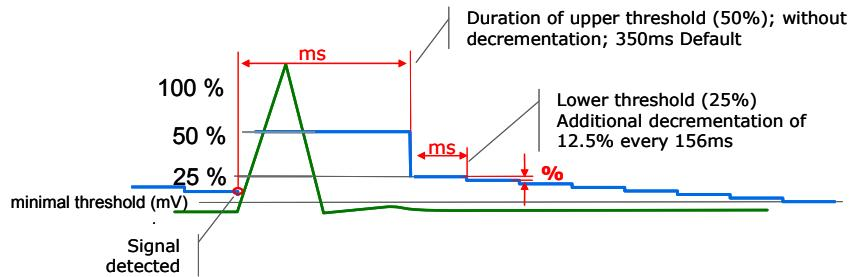

Figure 39: Automatic Sensitivity Control (ASC) in the atrium
The Lumax 740 VR-T DX, DR-T and HF-T ICDs have two sensitivity settings in the atrium: 1) Standard and 2) OFF. The Standard atrial setting is recommended for all patients and works similarly to the ventricular Standard setting. In the Standard setting, each P-wave is tracked and used to reset the upper and lower thresholds. Figure 39 shows an example of atrial ASC. The upper threshold (UT) is set to 50% of the peak P-wave amplitude. The Upper threshold after sense/pace is fixed at 350 ms. Following the Hold of upper threshold, sensing decreases to the lower threshold (LT), which is equal to 25% of the measured P-wave. The lower threshold (LT) decays 12.5% every 156 ms until the Minimum Threshold is reached or until the next event, sensed or paced.